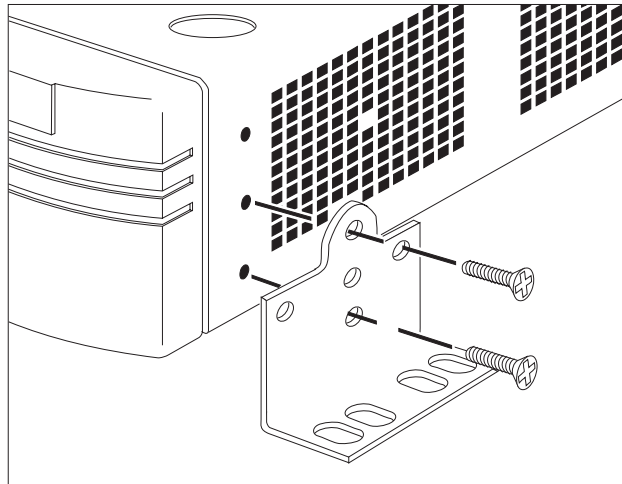

Figure 2-2 Wall mounting the Switch
- 2 Locate a mounting bracket over the mounting holes on one side of the unit, as shown in Figure 2-2.